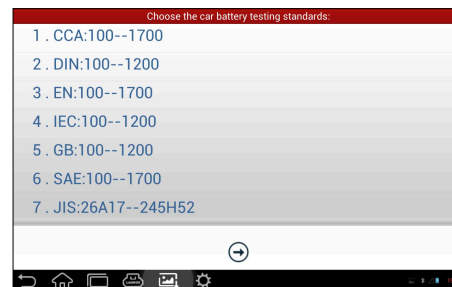

Fig. 7-5
5. Follow the on-screen instructions to turn off the headlamp and tap [OK], the system will continue the testing. Tap , it will enter testing standard selection screen. See Fig. 7-5.